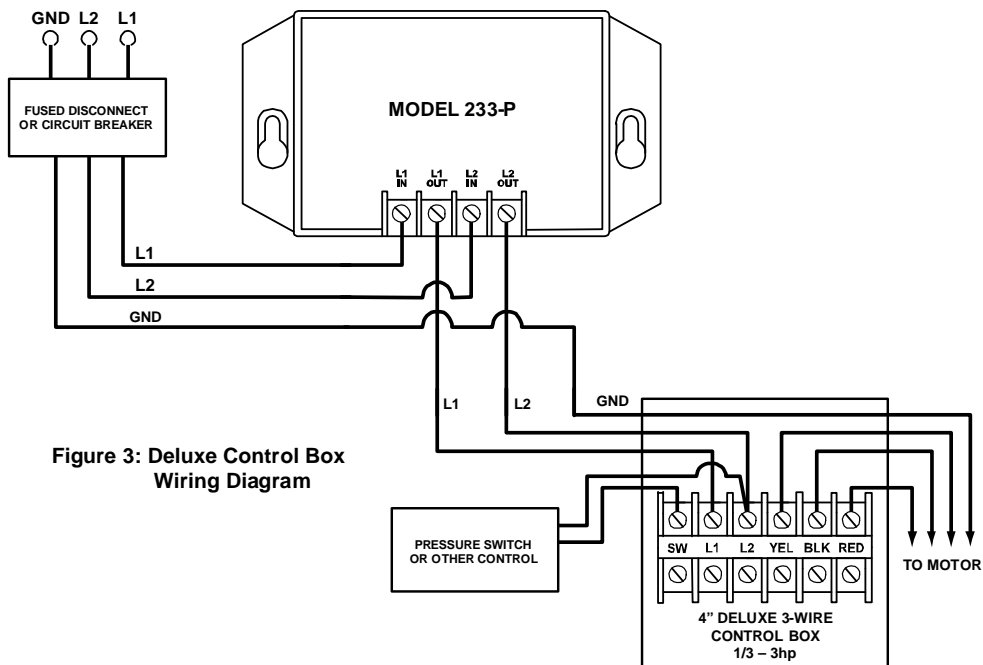

Figure 3: Deluxe Control Box Wiring Diagram
- Deluxe control box – Figure 3